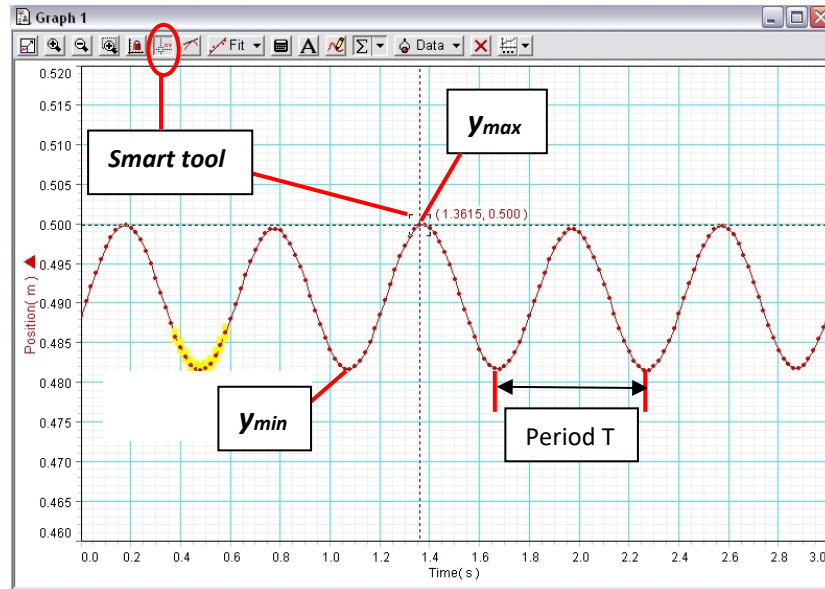

Figure 6
- Your graph will be similar to Figure 6. You may adjust the vertical scale (position scale) to get the best display as you did in step 7 of Exercise 1. Read the values  $y_{min}$  and  $y_{max}$  using the **Smart tool** of the **DataStudio**. To do this, click on the **Smart tool** button  and then use the arrow keys of the keyboard to move the tool to the correct positions. The numbers in the parenthesis are the coordinates of the point.